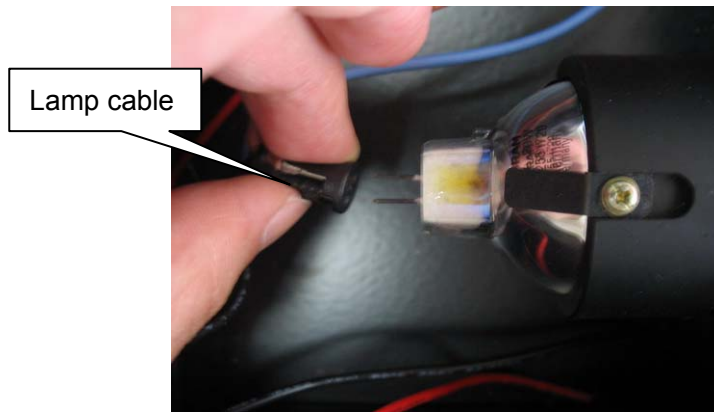

Figure 3-30
- 1、 Remove the lamp cable to prevent lamp from broken by misoperation, as shown in figure 3-30.